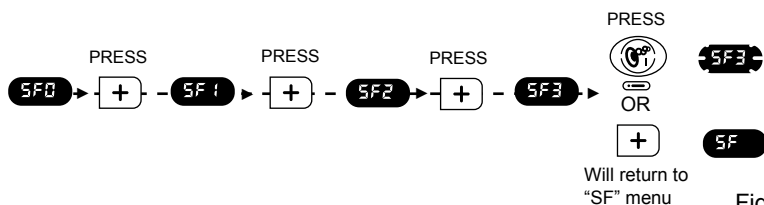

Figure 6
- Press the **Warmer** (+) or **Cooler** (-) button to scroll through the cycles, SF0 to SF3 (Figure 6).